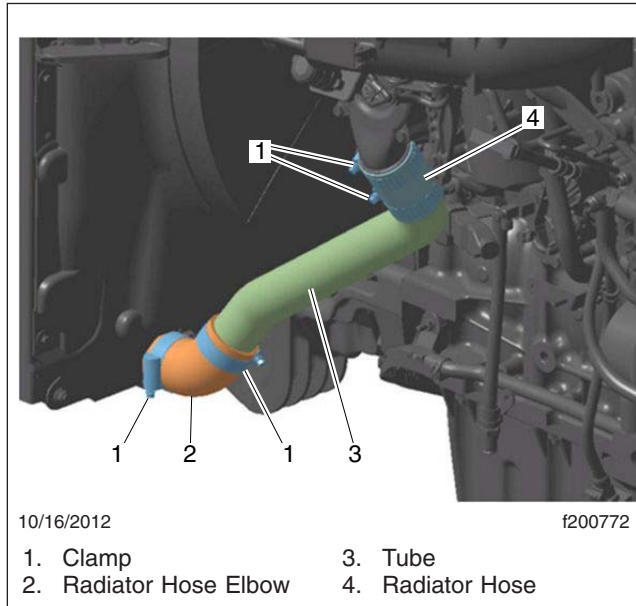

Fig. 12, Lower Radiator Hose Installation, DDC Engines
15. Disconnect the lower radiator hose assembly at the radiator. See Fig. 12 for DDC engines, or Fig. 18 for Cummins engines.